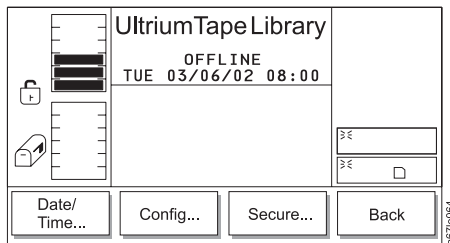

Figure 4-115. Utils Submenu
2. Press the button below the **Utils** softkey. The Utils Dialog displays (see Figure 4-115).
5. Verify that the new setting is correct on the display, then press the button below the **OK** softkey to accept the new inventory setting. The Utils Submenu redisplay (see Figure 4-115).